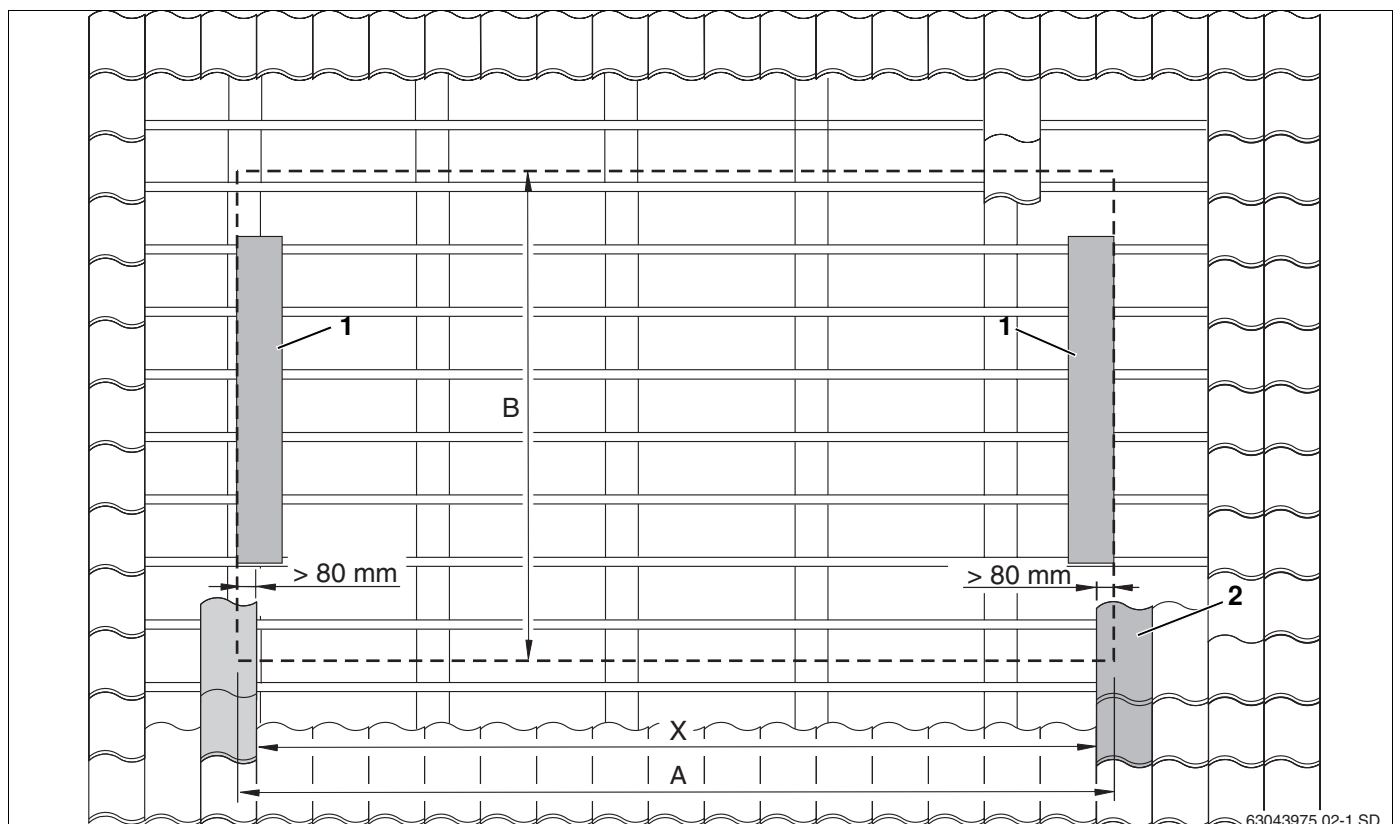

Fig. 8 Determining the exact position of the collector array
- Determine dim. X (distance between the tiles that lie on the side facing collectors, Fig. 8, **Item 1**) on the roof and mark it on the roof.
- Determine the lowest row of tiles (Fig. 8, **Item 2** taking dimension B into account (Fig. 8).